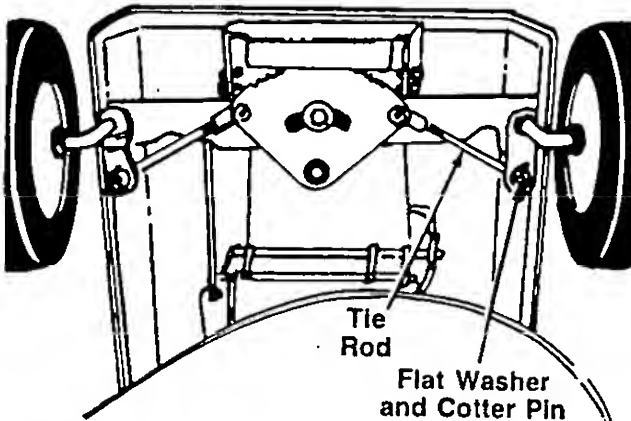

FIGURE 7.
The caster (forward slant of the king pin) and the camber (tilt of the wheels out at the top) require no adjustment. Automotive steering principles have been used to determine the caster and camber on the mower. The front wheels should toe-in $\frac{1}{8}$ inch. See figure 7. To adjust, follow these steps:
1. Remove the cotter pin and flat washer which hold the tie rod to the axle bracket. See figure 7.